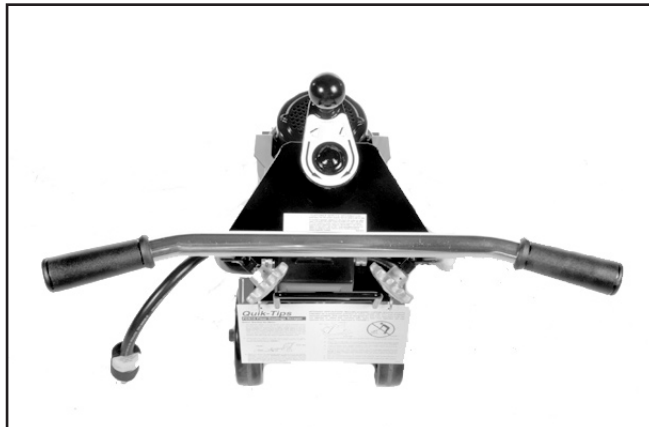

FIGURE 2
3) Remove the threaded knobs from the fixed section of the operator handle. Install the adjustable section into the fixed section with the handle grips facing backwards toward the operator. FIGURE 2. Position the adjustable section at a comfortable height. Reinstall the threaded knobs and tighten until the studs thrust up tight against the adjustable handle section.